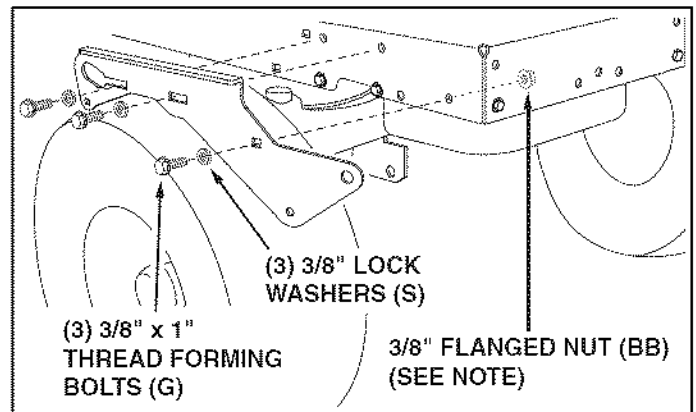

FIGURE 23 RIGHT SIDE VIEW
STEP 24: (SEE FIGURE 23)
- Fasten the R.H. Side Plate (bend facing out) to the three holes shown in the tractor frame. Use three 3/8" x 1" thread forming bolts (G) and 3/8" lock washers (S). Tighten all bolts and repeat for the L.H. side.